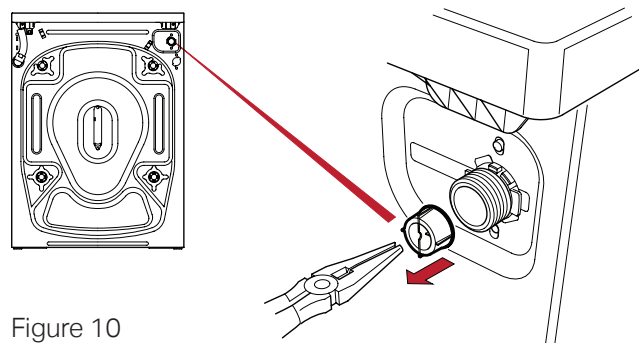

Figure 10
- 2 Remove the water inlet filter from the water inlet valve by gently pulling on the plastic bar of the filter with a pair of long nosed pliers (see Figure 10).